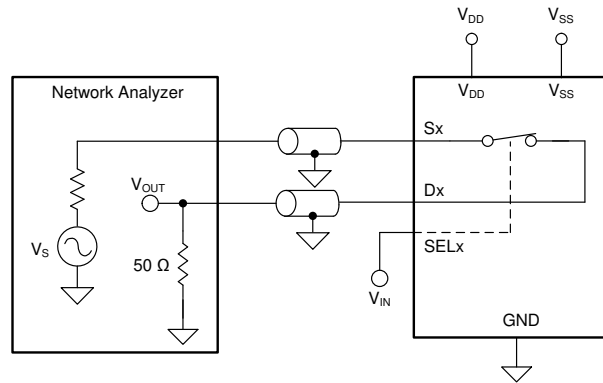

图 8-9. Bandwidth Measurement Setup
Bandwidth is defined as the range of frequencies that are attenuated by < 3 dB when the input is applied to the source pin (Sx) of an on-channel, and the output is measured at the drain pin (D) of the TMUX6121, TMUX6122, and TMUX6123. 图 8-9 shows the setup used to measure bandwidth of the switch. Use 方程式 4 to compute the attenuation.